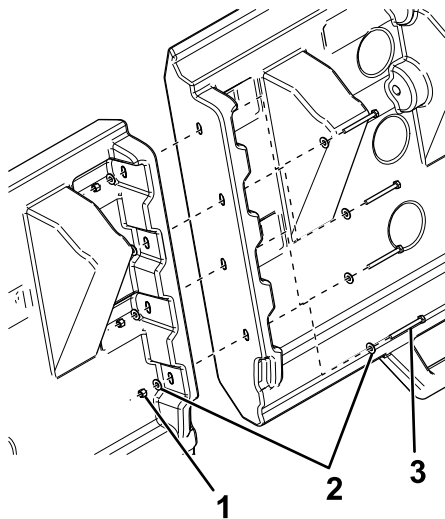

Figure 1
- For VBX 6500 spreaders, secure 2 cover sections together using 4 bolts (1/4 x 2-3/4 inches), 8 washers, and 4 nuts (Figure 1).